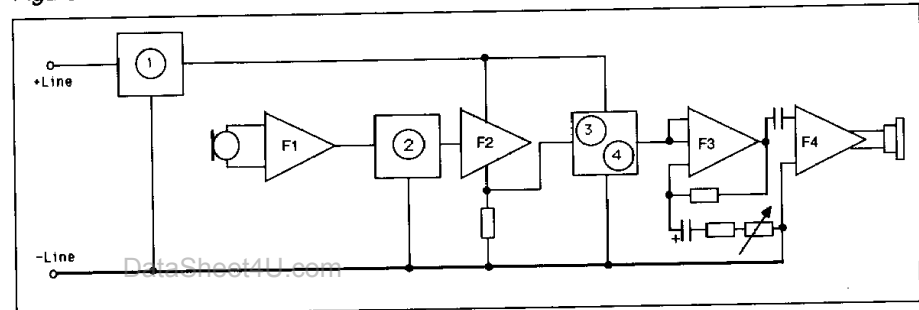

Figure 7. Alternative block interconnections.
3. Give an extra 20 dB gain with volume control for the receiving amplification etc. (See fig. 7).